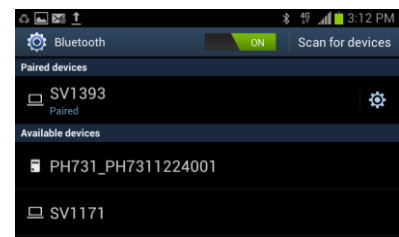

Figure 2. Scanned Devices
- e) Select the serial number of the PH731 on the list of devices that appears (Figure 2).